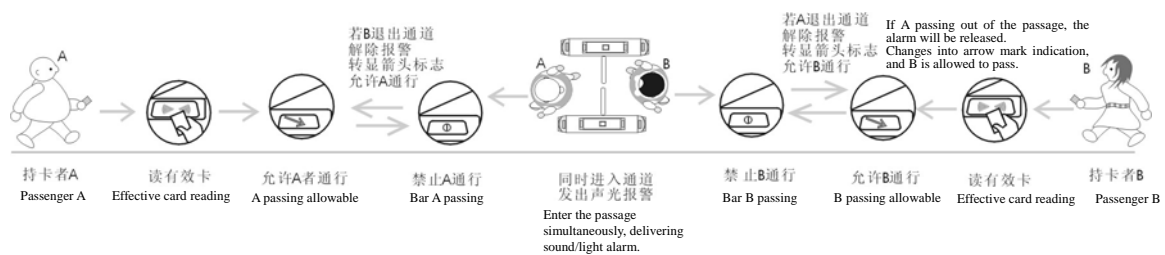

Fig. 14
- The process is as given in Fig.14